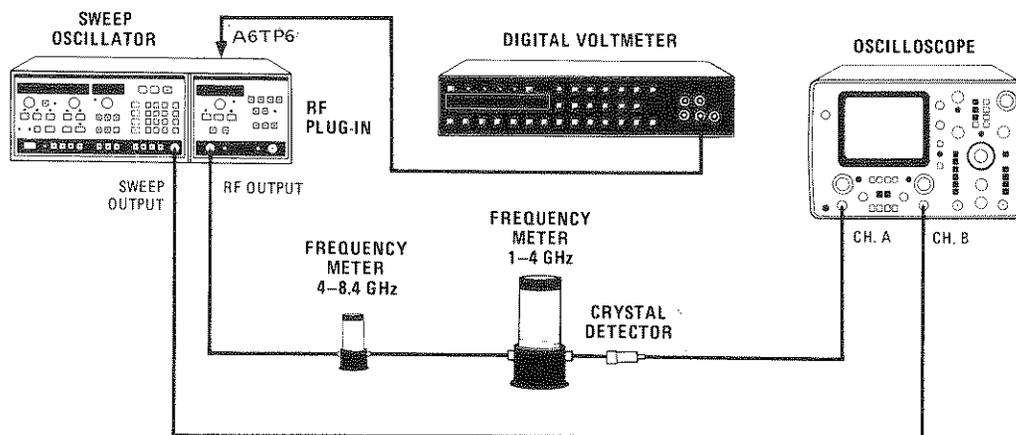

Figure 5-16. Test Setup for Delay Compensation Adjustment
1. Connect equipment as shown in Figures 5-16 and 5-17. At oscilloscope, select A vs. B sweep mode to obtain a CRT trace of amplitude versus frequency.